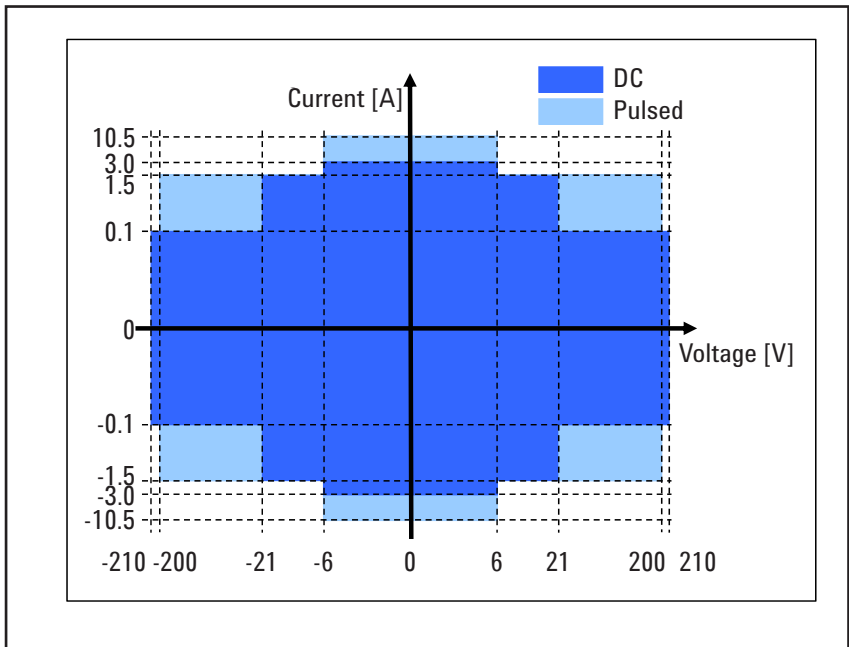

Figure 2. Broad bipolar and current ranges (4-quadrant operation)
The B2961A/B2962A is a bipolar source that supports 4-quadrant operation, so the voltage and current polarities can be either positive or negative. It can source currents from 10 fA to 3 A (DC) or 10.5 A (pulsed), and voltages from 100 nV to 210 V (please see Figure 2). In addition to the basic sourcing capabilities described above, the B2961A/B2962A also has advanced features that permit more complex testing and evaluation. These include arbitrary waveform generation, programmable output resistance function and a time domain voltage/current waveform viewer. Therefore, the B2961A/B2962A satisfies all of the requirements for precise low resistance measurement when used in combination with the Agilent 34420A.